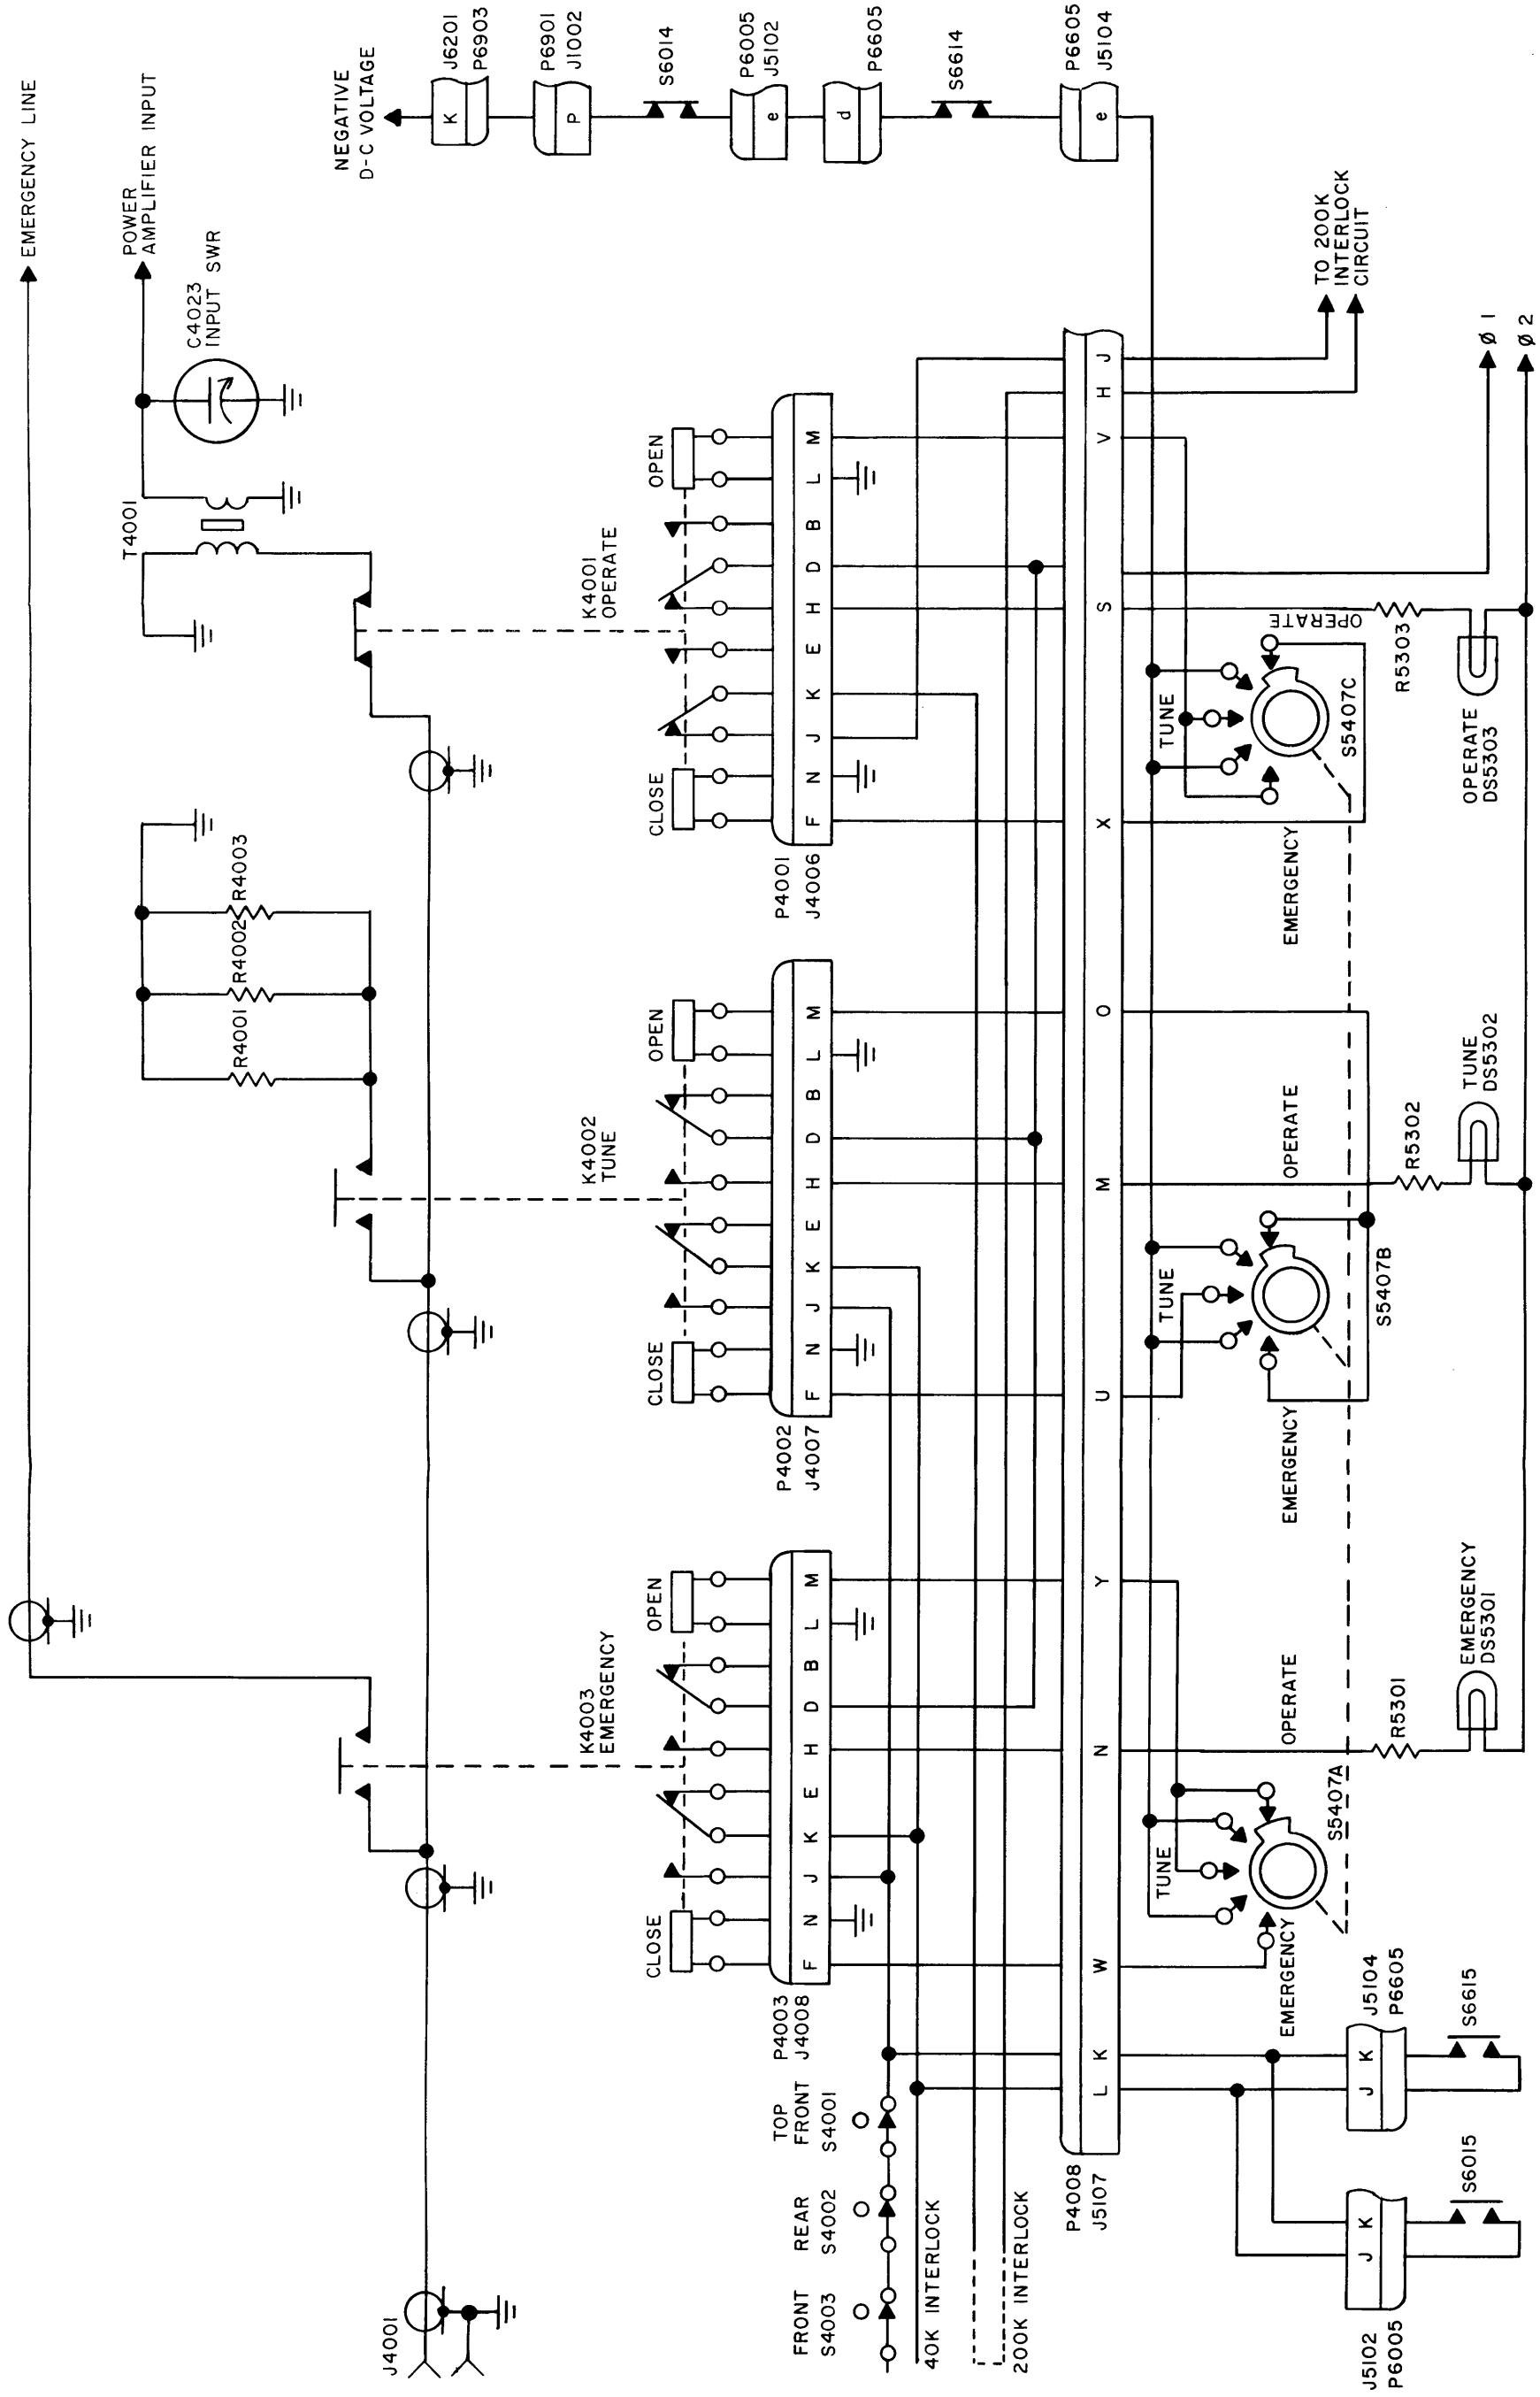

Figure 2-5. 40-KW RF Input Control Circuits, Simplified Schematic
b. CIRCUIT ANALYSIS. (See figure 2-5.) - When EMERGENCY/TUNE/OPERATE switch S5407 is turned to its OPERATE position, a negative voltage from the Retune and SWR chassis is applied through contacts of microswitches S6014 and S6614 to OPERATE relay K4001. The coaxial contacts of OPERATE relay K4001 complete the rf input circuit to the 200-kw power amplifier. The OPEN coils of TUNE relay K4002 and EMERGENCY relay K4003 are simultaneously energized by the same negative voltage, thus opening the coaxial contacts of these relays. The contact arrangement and wiper configuration of the three wafer sections of EMERGENCY/TUNE/OPERATE switch S5407 produce a voltage pulse when the switch is rotated. Another set of contacts of energized relay K4001 closes the 200-kw high voltage interlock circuits (refer to paragraph 2-11) to permit the high voltage control circuits to function. A third set of contacts of relay K4001 applies phase 1 and 2 voltage across OPERATE lamp DS5303.
b. 40-KW SECTION. - The interlock circuits associated with the 40-kw section (the first four frames of the transmitter) are described in detail in Maintenance Instructions for GPT-40K transmitter. When mated with the other five frames of the GPT-200K transmitter, the jumper across terminals 5 and 6 of E8119 are removed and the GPT-40K interlock circuit is extended into the r-f input control circuits of the GPT-200K. These circuits are shown in figure 2-5 and described in paragraph 2-6.